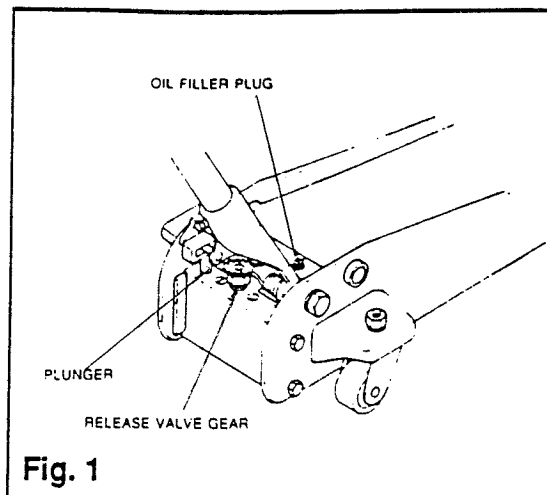

Fig. 1
- Open the release valve by turning the jack handle counter clockwise (Fig. 1).
- Loosen oil filler plug (Fig. 1).
- Position the jack on level ground and lower the saddle. Remove the oil plug (See Fig. 1).